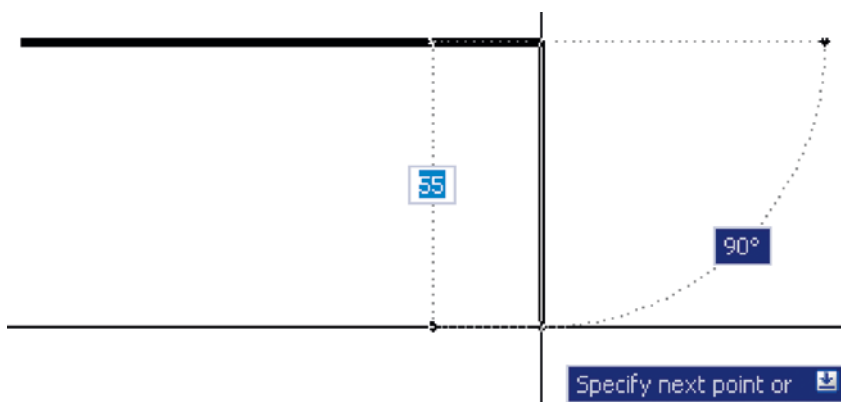

Fig. 3.30 Dynamic Input – first example – **Polyline** – *the vertical height*
6. *Drag* the cursor down until the vertical distance shows and *left-click* (Fig. 3.30).